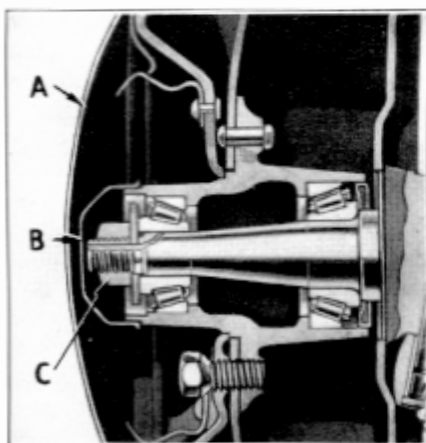

Figure 36
1. Remove outer and inner hub caps (A and B), Figure 36.
2. Remove cotter pin holding nut (C).